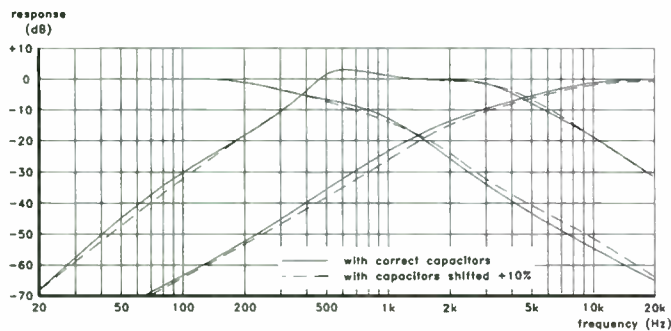

FIGURE 8: Effect of capacitance shift upon performance of three-way, second-order crossover network.
Then, armed with my trusty H-P 4261A LCR meter, I set to work. The 4261A measures capacitance and dissipation factor (DF) at two frequencies: 120Hz and 1kHz. (Dissipation factor is ESR/capacitive reactance.) Table 1 lists the capacitors and the measurement results, which seemed pretty much as expected. The film and paper-oil capacitors had very low dissipation factors, implying very low ESR, and their capacitance change with frequency was less than 1/2%. Electrolytics were much worse on both counts: DF ranged from 0.033 to 0.558 (really!) and capacitance shift, from under 3% to over 27%. (Just for reference, I ran some curves to investigate the effect of a 10% capacitance shift upon a three-way second-order crossover network. The results are shown in Fig. 8.) Also, dissipation factor increased with frequency, and capacitance decreased. These effects could be explained by changes in the behavior of the dielectrics as frequency varied.